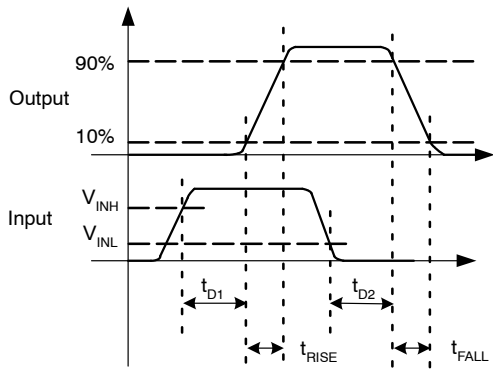
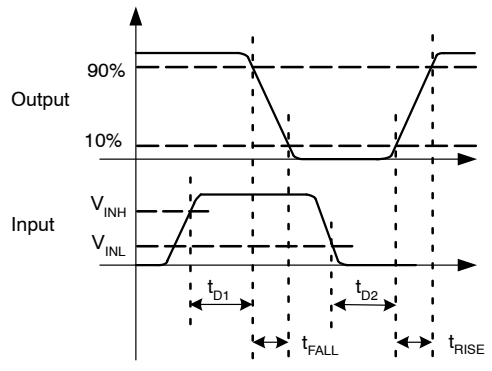
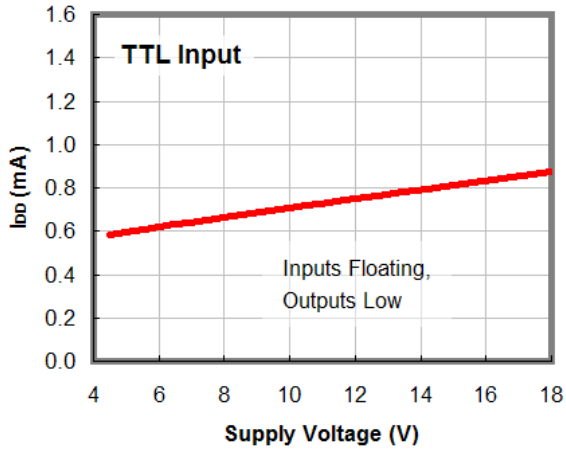
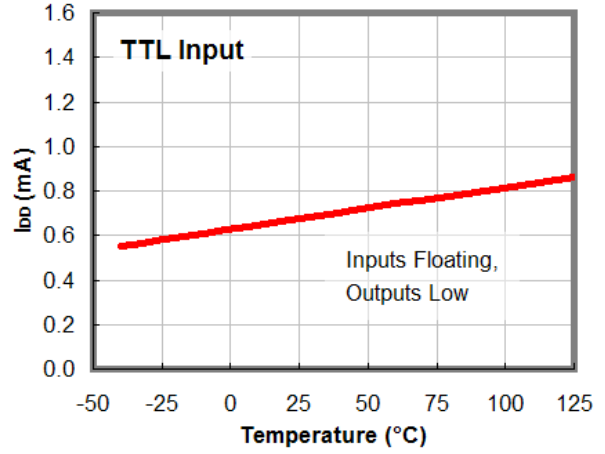

Figure 6. Non-Inverting Timing Diagram
Figure 7. Inverting Timing Diagram
Figure 8.  $I_{DD}$  (Static) vs. Supply Voltage (Note 10)
Figure 9.  $I_{DD}$  (Static) vs. Temperature (Note 10)
9. See Timing Diagrams of Figure 6 and Figure 7.
10. For any inverting inputs pulled low, non-inverting inputs pulled high, or outputs driven high, static  $I_{DD}$  increases by the current flowing through the corresponding pull-up/down resistor shown in Figure 6 and Figure 7.
In the  $I_{DD}$  (static) typical performance characteristics shown in Figure 8 and Figure 9, each curve is produced with both inputs floating and both outputs LOW to indicate the lowest static  $I_{DD}$  current. For other states, additional current flows through the 100 k $\Omega$  resistors on the inputs and outputs shown in the block diagram of each part (see Figure 6 and Figure 7). In these cases, the actual static  $I_{DD}$  current is the value obtained from the curves plus this additional current.